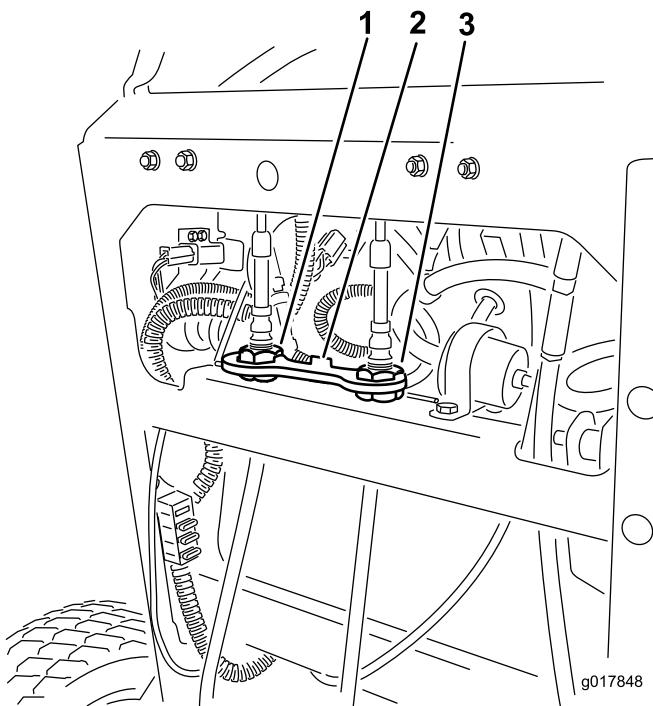

Figure 56
4. Rotate the right cable adjustment to position the right motion control in the center of the control panel neutral-lock slot (Figure 56).